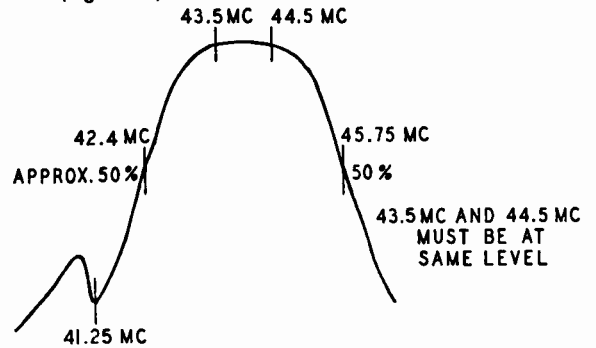

Fig. 6—Overall Pix I-F Response Curve
3. Set channel selector to Channel 13. Connect sweeper with very short leads through a 10 K mmf disc ceramic capacitor to mixer grid (I-F test point—see figure 7). Readjust sweep output for 4.0V P-P, adjust 41.25 mc trap (bottom of L-200) so that notch is at marker, adjust mixer plate coil (L-18 primary) and input grid coil (top of L-200) for maximum gain and symmetry with 45.75 mc marker at 50%. (Figure 6.)